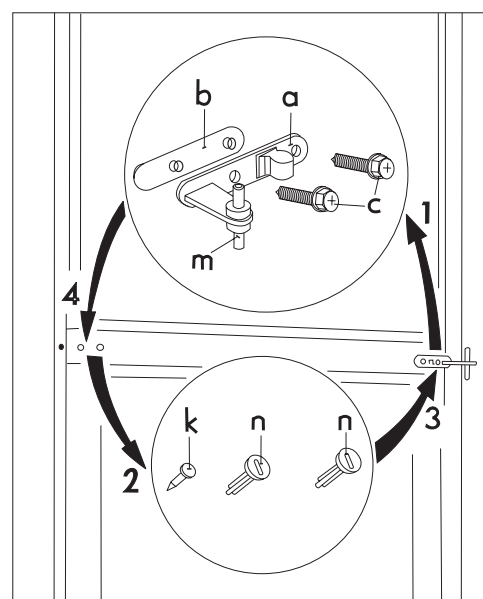

fig. 3.
8. Remove double door mount (a, b, c) from the body of the appliance in steps. Please make sure the plastic spacer (b) under the door mount is also removed (Fig. 3).
14. Remove the left-hand cover pin of the double door mount (3 pieces, n, k) and move to the other side (Fig. 3).
18. Fit the pin of the double door mount (m) into the left-hand hole of the freezer door (Fig. 3).